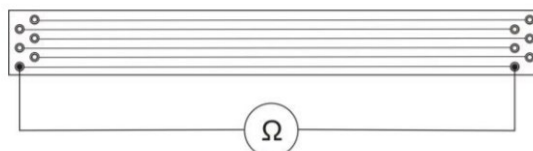

Fig. 1 Experimental set-up
- Set up the experiment according to fig. 1.